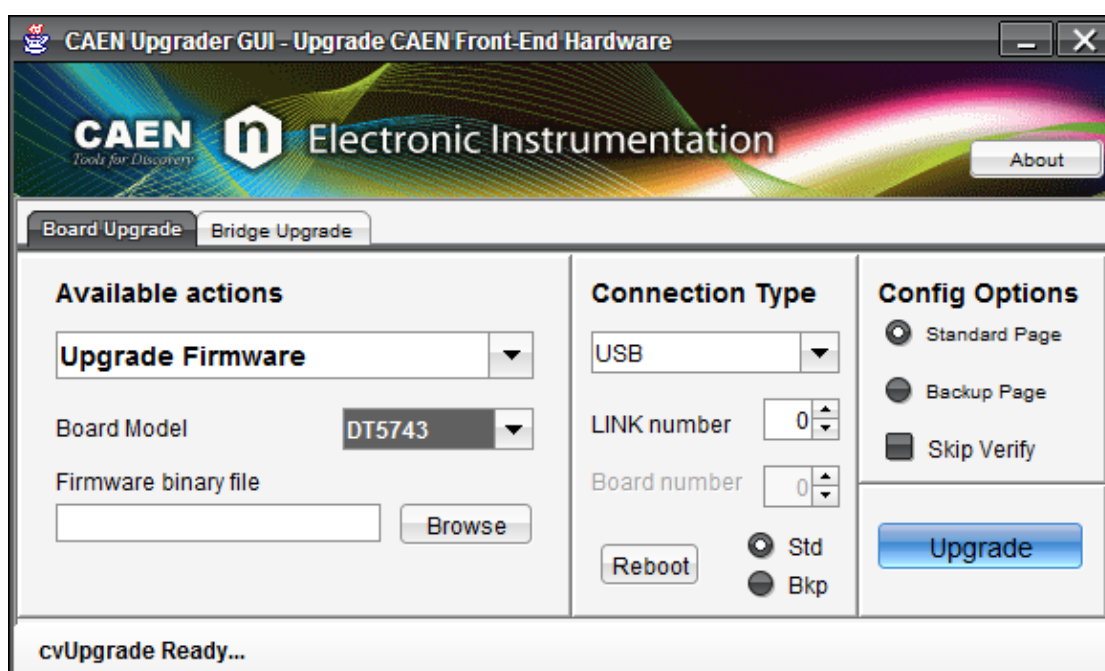

Fig. 10.2: CAENUpgrader Graphical User Interface
- Force the board to reboot loading the copy of the firmware stored on the BKP page of the FLASH. For this purpose, the Reboot option in CAENUpgrader software tool must be used (see **Fig. 10.2**).